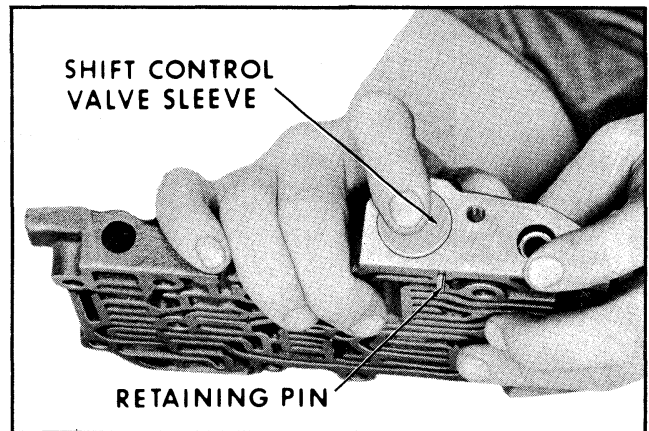

Fig. 7B-44 Removing Shift Control Valve Sleeve
8. If necessary, remove oil channel support plate (Fig. 7B-41), valve body plate, and plate to case gasket.